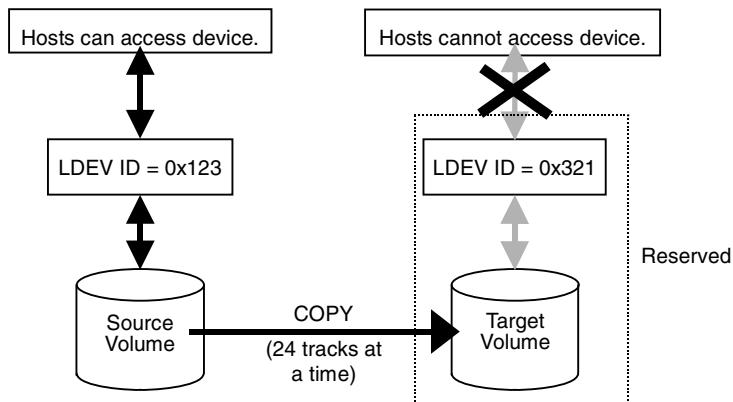

Figure 7 Data Flow during an Auto LUN Operation
- Copy the data on the Auto LUN source volume to the Auto LUN target volume (see Figure 7 on page 15).